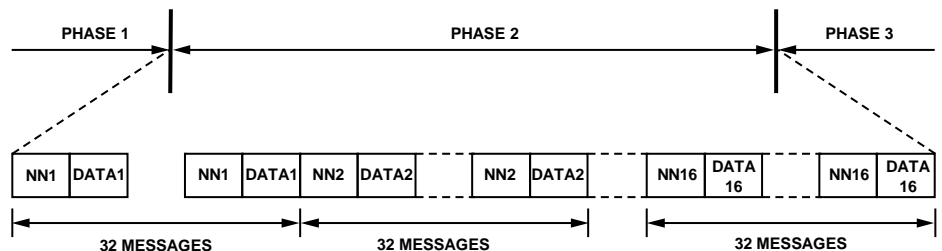

Figure 25. Mode 3 Device Data Transmission
In Phase 2 Mode 3, the 10-bit data codes, -512 (0x200) to -481 (0x21F), are used to transmit the device data. The data coding is shown in Table 34 and in Figure 25. One 4-bit nybble of the device data (encoded as one of 16 nybble codes) is transmitted in each 10-bit message. The number of the data nybble is identified by the preceding nybble number (NN) code as detailed in Table 33. This allows a total of $(16 \times 4) = 64$ unique bits of device data to be transmitted during Phase 2. Each message is repeated